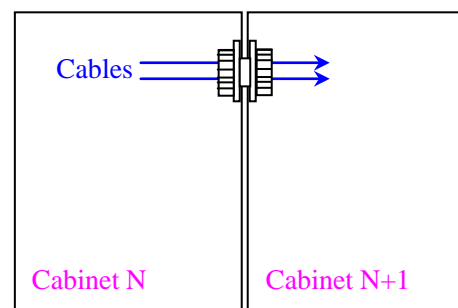

Fig4.5 Step4
Step4: the cable need connect to other cabinet through the hole as fig4.5 shows.